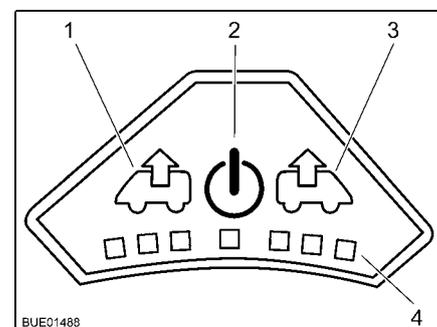

Fig. 129 Control panel for fan
- Press the On/Off button (Fig. 129,2). The fan runs in comfort mode (venting at slowest fan speed).
- To increase the fan speed: Press the Vent button (Fig. 129,1). The fan speed in the venting direction increases by one level. LEDs (Fig. 129,4) show the operating levels.
- To lower the fan speed: Press the Aerate button (Fig. 129,3). The fan speed decreases by one level.
- To increase the fan speed: Press the Aerate button (Fig. 129,3). The fan speed in the aerating direction increases by one step. LEDs (Fig. 129,4) show the operating levels.
- To lower the fan speed: Press the Vent button (Fig. 129,1). The fan speed decreases by one level.
- Press the On/Off button (Fig. 129,2). The fan stops, the LEDs go out.